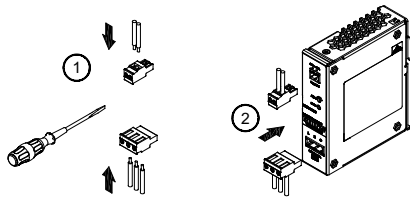

Figure 4
Caution: "Must tighten wire to terminal block (Fig. 4 (1)) before plugging into the terminal block connection (Fig. 4 (2))".